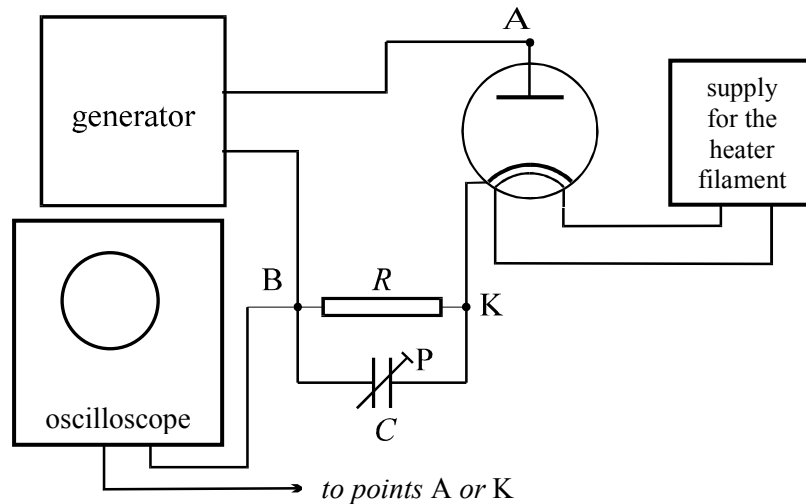

Fig. 2. Experimental setup for observation of rectification.
Rectification of the alternating voltage is demonstrated by means of the circuit shown in fig. 2. The ac voltage from generator is biased to the diode. The shape of the voltage before and after rectification is observed on the oscilloscope screen. The capacitances C which are connected parallel to the resistance R serve as a filter which smoothes the rectified voltage.
1. Set the circuit according to fig. 2.